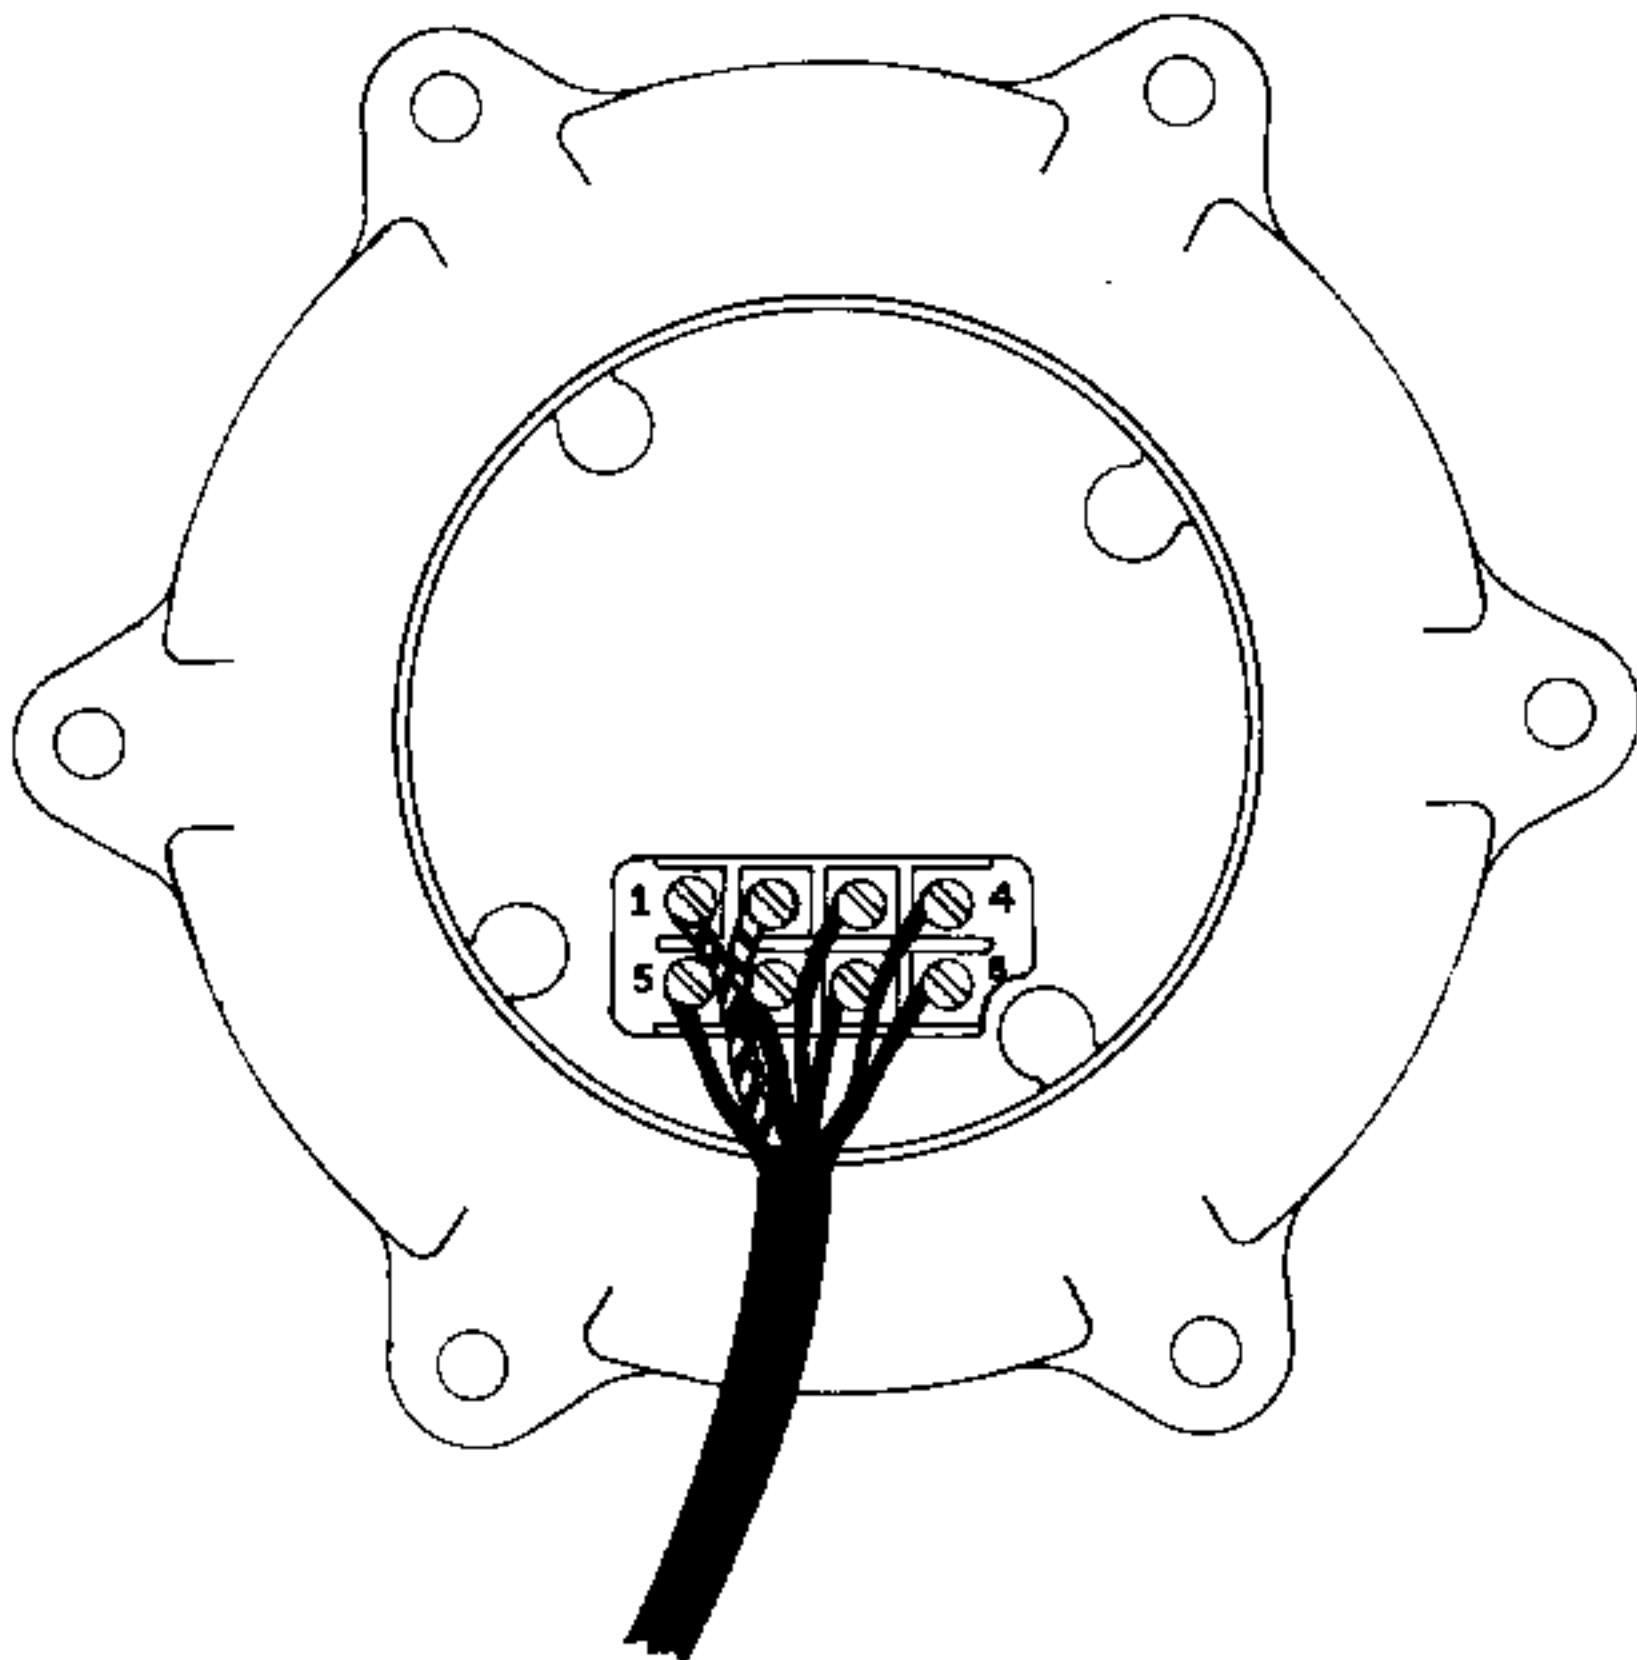

FIG. 4: ROTATOR WIRING
- C. With the control unit and the rotator on the work table, connect the cable between the rotator and control unit using the full length of cable that will be used in the installation. **IT IS IMPORTANT THAT #1 TERMINAL ON THE ROTATOR IS CONNECTED TO THE #1 TERMINAL ON THE CONTROL UNIT AND SO ON. NOTE:** That the specifications call for **HEAVIER** gauge wire in two locations. **LEADS #1 and #2** must be **HEAVIER GAUGE** and less total lead resistance (See specifications Page 11). Wire the control to the rotator as shown in figures 4 and 5.